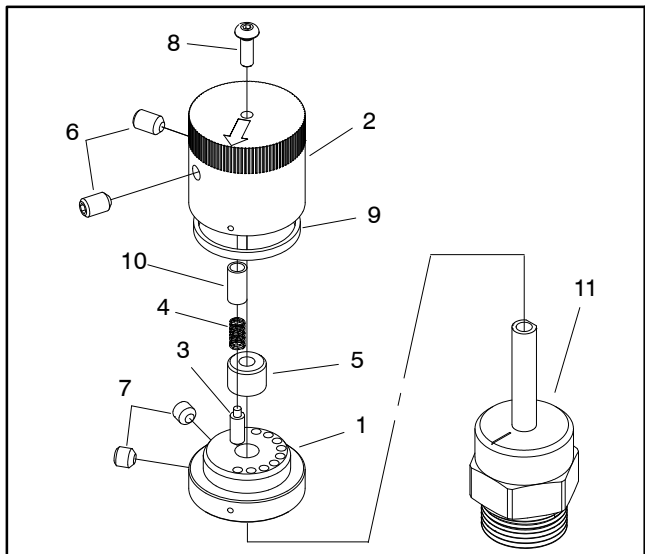

Figure 63
1. Remove rotary handle from valve (Fig. 63):
- A. Loosen two (2) set screws that secure handle cap.
- D. Loosen two (2) set screws that secure handle base to flow control valve and remove base.
6. Install rotary handle (Fig. 63):
- A. Place handle base on flow control valve and position alignment mark on base with number 1 on manifold. Secure base with two (2) set screws. Apply a light coating of grease to chamfer on top of base to ease seal installation.
- D. Make sure that alignment marks on cap and base are in line and that arrow on cap is pointing to number 1 on manifold. Tighten two (2) set screws to secure handle cap.